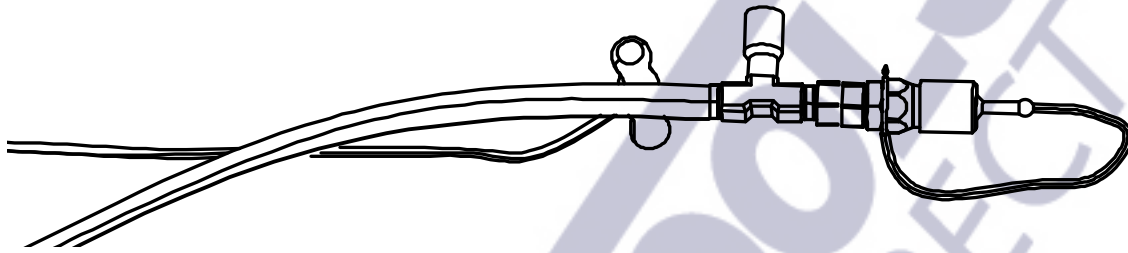

Figure 5 Lubrication for Sarracenia 180 hydraulic version.
- Grease the ball joint (see figure 5).